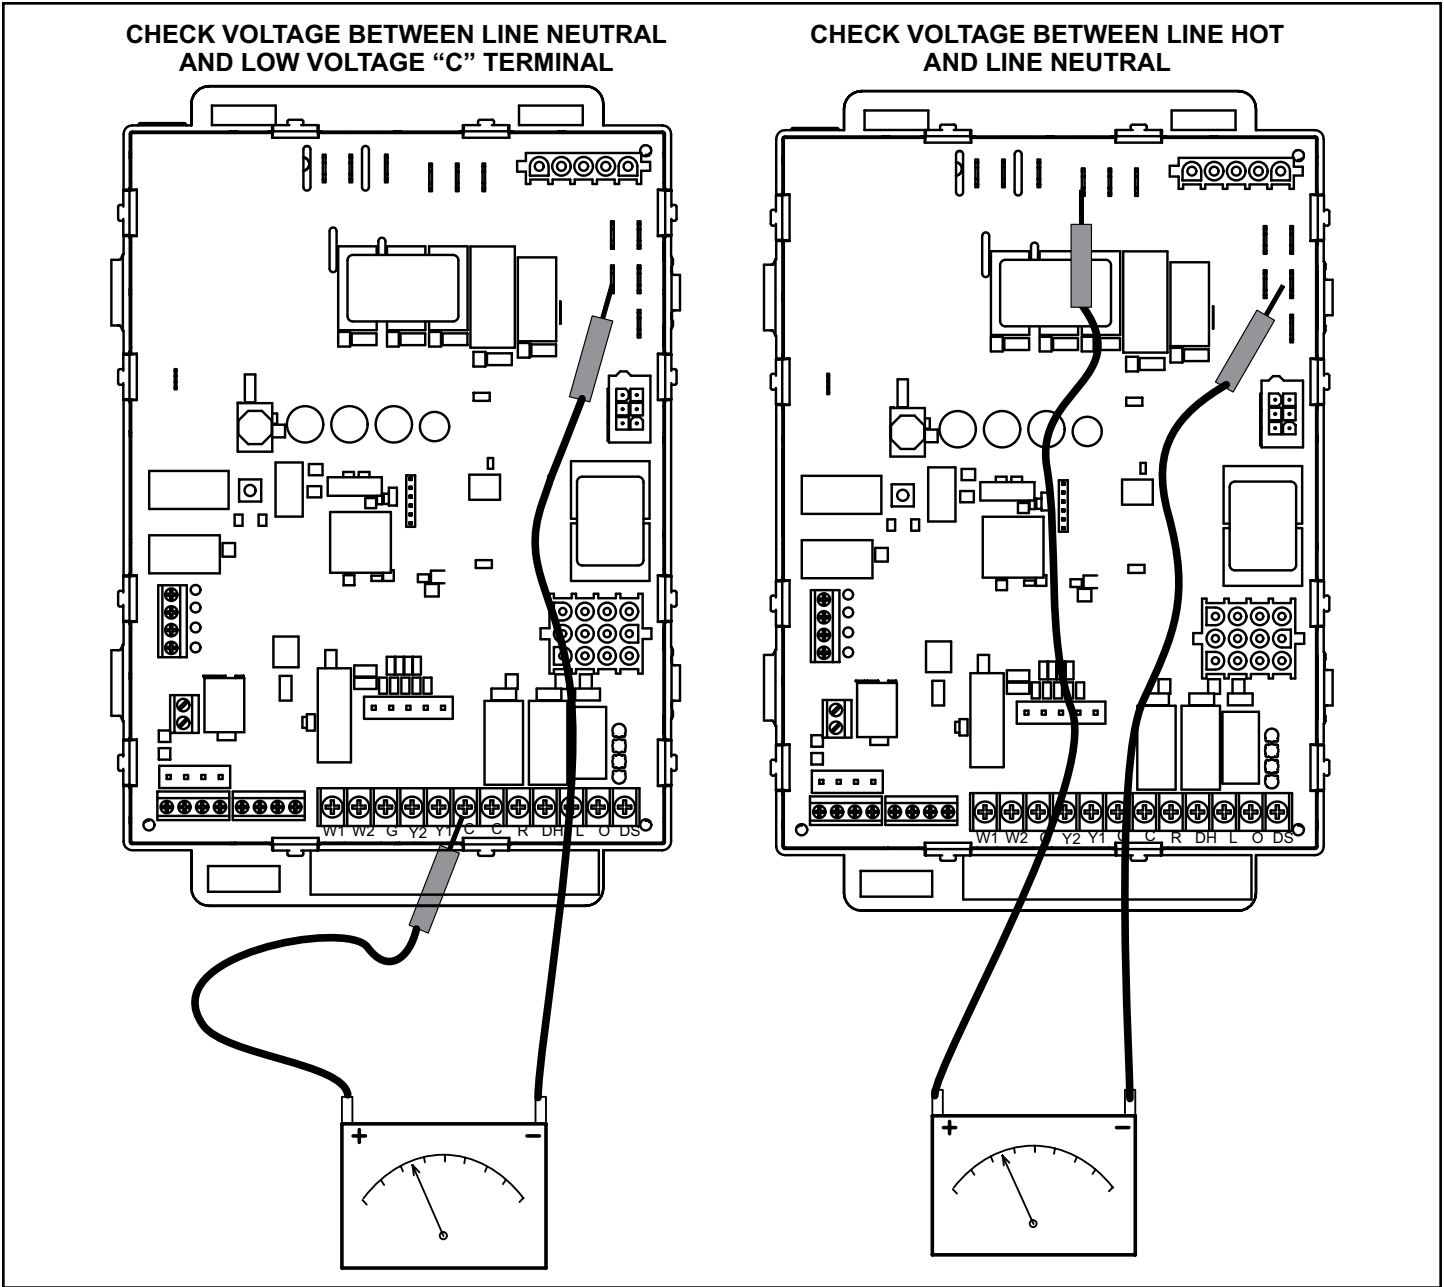

Figure 53.
- 1. Measure the AC voltage between Line Neutral (spade terminals) and "C" terminal (low voltage terminal block) on the integrated control. See Figure 53. A wide variation in the voltage between Line Neutral and "C" as a function of load indicates a poor or partial ground. Compare the readings to Table 28. If the readings exceed the maximum shown in Table 28, make repairs before operating the furnace.
- 2. In addition, measure the AC voltage from Line Hot to Line Neutral (spade terminals) on the integrated control. See Figure 53. This voltage should be in the range of 97 to 132 VAC